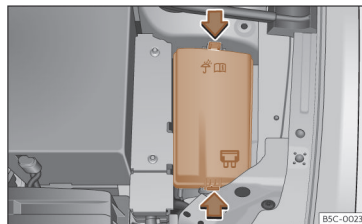

Fig. 49 In the engine compartment: fuse box cover.
- Press the locking tabs to release the fuse box cover»» Fig. 49 .